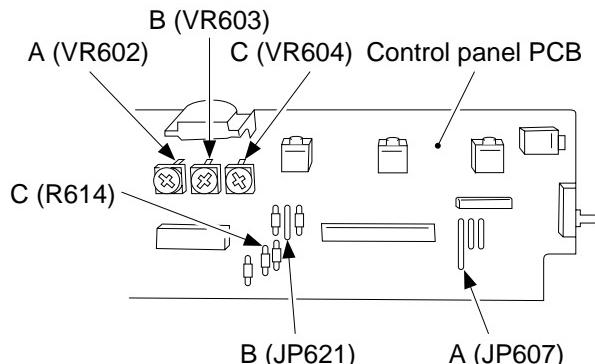

Figure 10-201B (PC420/430/FC220)
- Set the meter to the '200 k' range, and measure C between the terminal of VR604 and the terminal of R614 on the detached control panel PCB; see Figure 10-201B.
- In the case of the PC420/430/FC220, adjust VR602 (A between terminals of VR602 and JP607) and VR603 (Between terminals of VR603 and JP621); see Figure 10-201B.